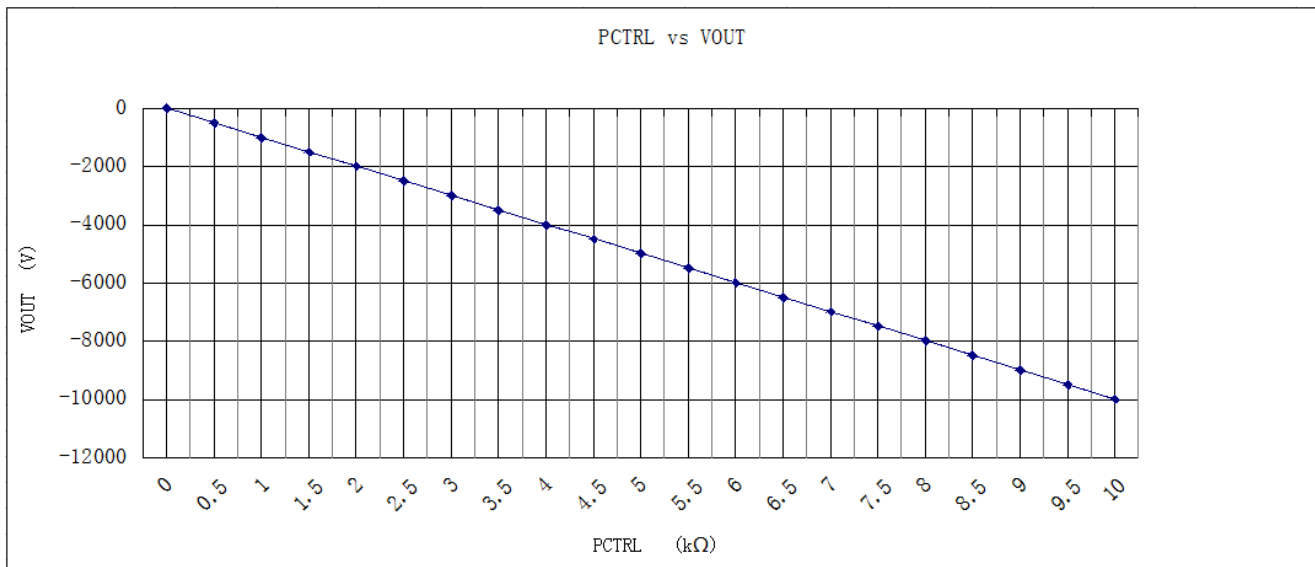

Figure 4. P_{CTRL} vs. V_{OUT}
5. HV adjustment: 10-turn potentiometer for adjusting output voltage. Rotate it clockwise to increase the output voltage, and the potentiometer resistance = the corresponding scale × 10Ω. For example, as Figure 4 shows, when the scale is 10, and the frame above the scale shows 1 (1kΩ), then the resistance = 10 × 10Ω + 1kΩ = 1.1kΩ, and the like.